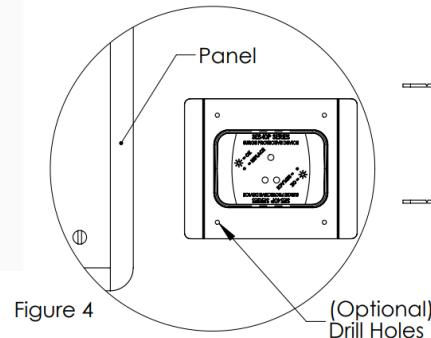

Figure 4
- (Optional) Drill holes.** If desired, carefully drill holes through the dimples so that the Flush Mount Plate may be fastened with screws. Choose screws and drill bit size as required by the application. See Figure 4.